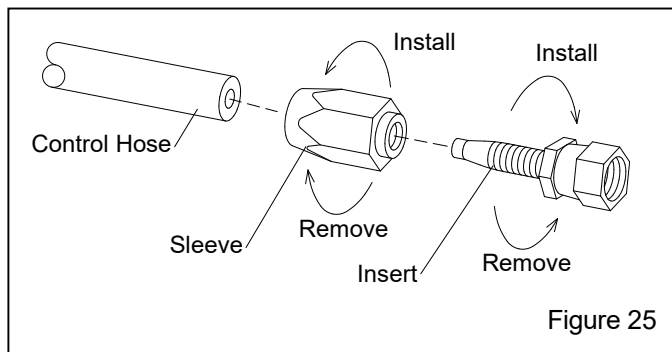

Figure 25
6.10 Remove and Install Reusable Control Hose Fittings – Figure 25